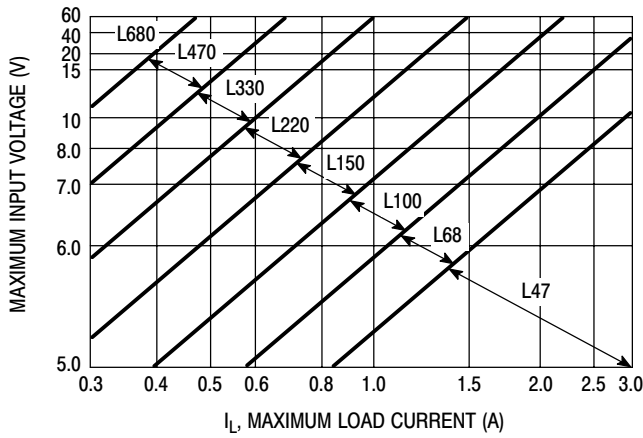
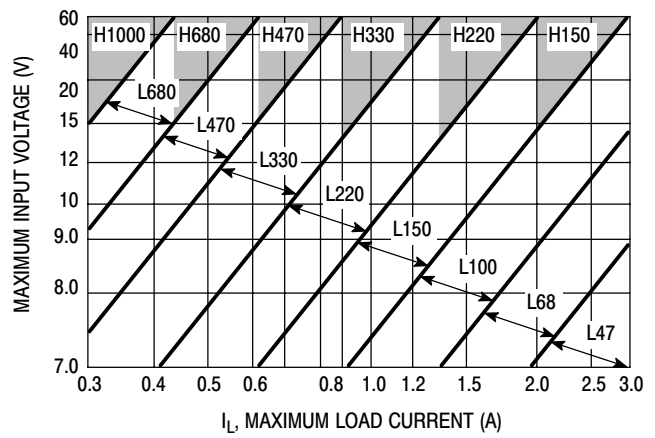

Figure 18. LM2576-3.3
Figure 19. LM2576-5
4. Inductor Selection (L1) A. According to the required working conditions, select the correct inductor value using the selection guide from Figures 18 to 22. B. From the appropriate inductor selection guide, identify the inductance region intersected by the Maximum Input Voltage line and the Maximum Load Current line. Each region is identified by an inductance value and an inductor code. C. Select an appropriate inductor from the several different manufacturers part numbers listed in Table 2. The designer must realize that the inductor current rating must be higher than the maximum peak current flowing through the inductor. This maximum peak current can be calculated as follows: $I_{p(max)} = I_{Load(max)} + \frac{(V_{in} - V_{out}) t_{on}}{2L}$ where $t_{on}$ is the "on" time of the power switch and $t_{on} = \frac{V_{out}}{V_{in}} \times \frac{1.0}{f_{osc}}$ For additional information about the inductor, see the inductor section in the "Application Hints" section of this data sheet.	4. Inductor Selection (L1) A. Use the inductor selection guide shown in Figures 19.  B. From the selection guide, the inductance area intersected by the 15 V line and 3.0 A line is L100.  C. Inductor value required is 100 $\mu$ H. From Table 2, choose an inductor from any of the listed manufacturers.
To simplify the inductor selection process, an inductor selection guide for the LM2576 regulator was added to this data sheet (Figures 18 through 22). This guide assumes that the regulator is operating in the continuous mode, and selects an inductor that will allow a peak-to-peak inductor ripple current to be a certain percentage of the maximum design load current. This percentage is allowed to change as different design load currents are selected. For light loads (less than approximately 300 mA) it may be desirable to operate the regulator in the discontinuous mode, because the inductor value and size can be kept relatively low. Consequently, the percentage of inductor peak-to-peak current increases. This discontinuous mode of operation is perfectly acceptable for this type of switching converter. Any buck regulator will be forced to enter discontinuous mode if the load current is light enough.